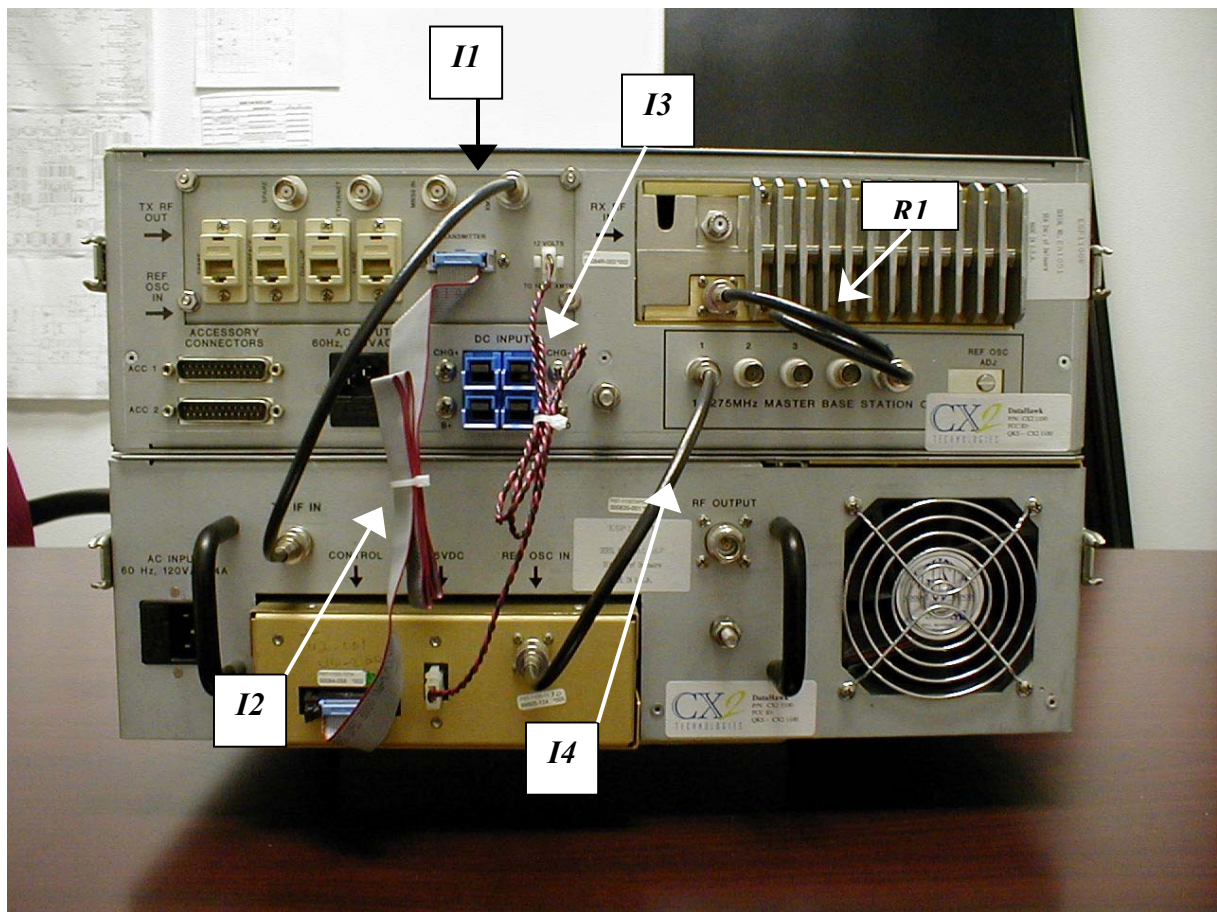

Figure 4.4
- Pay particular attention to the connectors located in the rear of the devices, as shown in Figure 4.4 and 4.5. If damaged, these connectors must be repaired before use. **Attached connectors are not user repairable – the 1100 must be returned to CX2 for repair.**
Please refer to figure 4.4